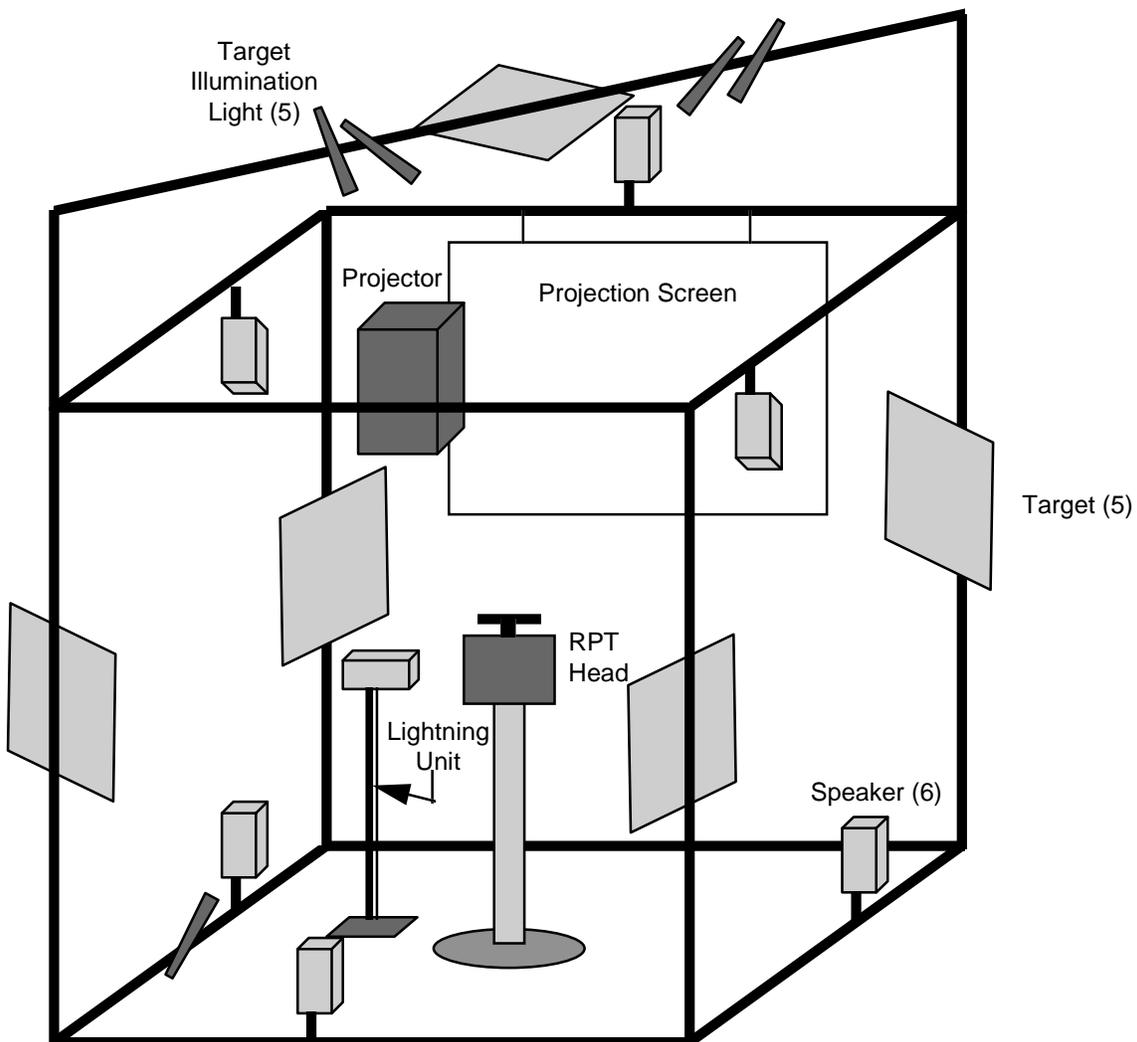
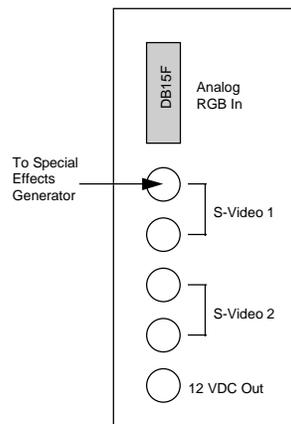
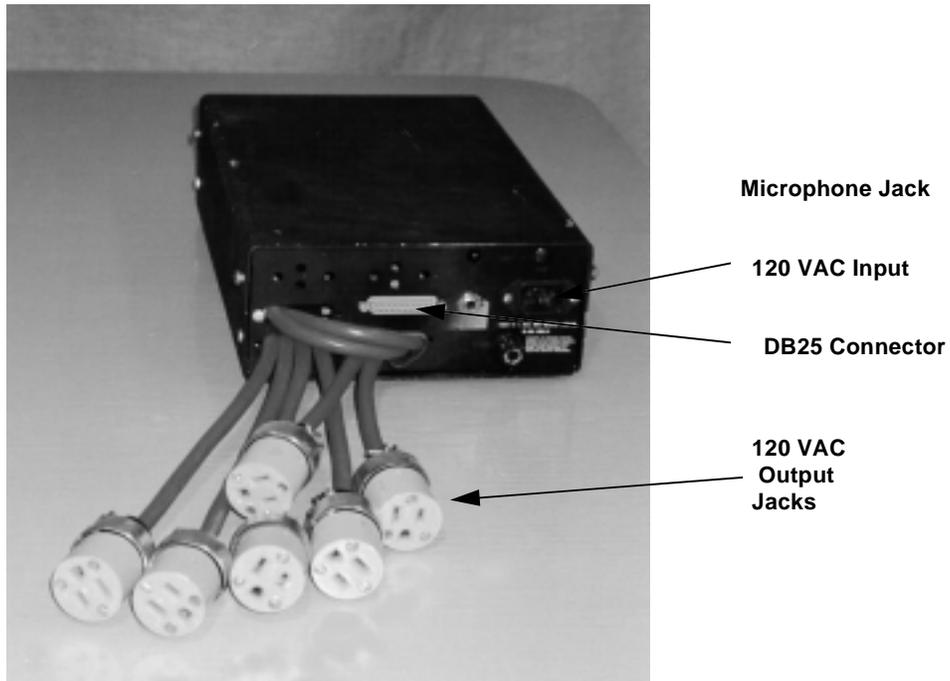

Fig. I-1. Theater of Hybrid Automata Setup
Fig. I-5. Back Panel of Projector
Fig. I-6. Lighting Controller
Theater of Hybrid Automata is a multimedia presentation. First constructed in 1990, it comprises two subsystems: (1) a tubular steel frame structure, approximately 10 feet on a side, with a centrally located roll/pan/tilt (RPT) head, a video camera, targets, lights and speakers; and (2) a separate console containing various electronic equipment. It operates in a pre-programmed, non-interactive, mode. The frame subsystem setup is shown in Figure I-1.
The video output of the SEG is directed to the overhead projector and screen arrangement indicated in Figure I-1. The projector back panel is shown in Figure I-5.
As illustrated in Figure I-1, lights illuminate each of the five targets plus the RPT head. The lights are controlled by signals originating within the master controller relay card and passed to the lighting controller. The lighting controller output is fed to a bank of 120VAC/12VAC transformers which supplies power to the lights. The lighting controller is shown in Figure I-6.
Lightning operates on principles of optical triangulation, gathering its information by tracking tiny infrared transmitters. The transmitter used in Automata is located on top of the RPT head as indicated in Fig. I-1. Lightning senses horizontal and vertical location from each infrared source. From this information, its signal processor computes velocity and acceleration, performs some elementary analysis, and converts the information to MIDI signals.
The Lightning unit, shown in Fig. I-9(a), is mounted on a stand in proximity to the RPT head (See Fig. I-1). Communication is established with the video portion of the presentation through the RPT camera. A relay in the relay card located in the Master Controller is dedicated to the Lightning unit, and connection is made
Central to the Automata presentation is the roll/pan/tilt (RPT) head. This complex component comprises three stepper motors, associated slip rings and limit switches, and a video camera. It is mounted on a stand, and is positioned near the center of the tubular frame as illustrated in Figure I-1.